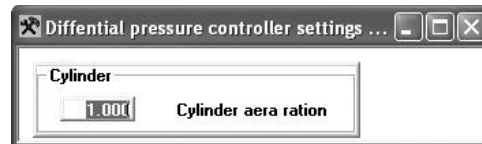

Fig. 85: Setting of the area ratio
- Delta pA-pB (pressure differential): The difference of the pressure in A and B is calculated in an area ratio-evaluated form. The area ratio can be set in the range from 0...15.99 (fig. 85 "Setting the area ratio" on page 86; M481).